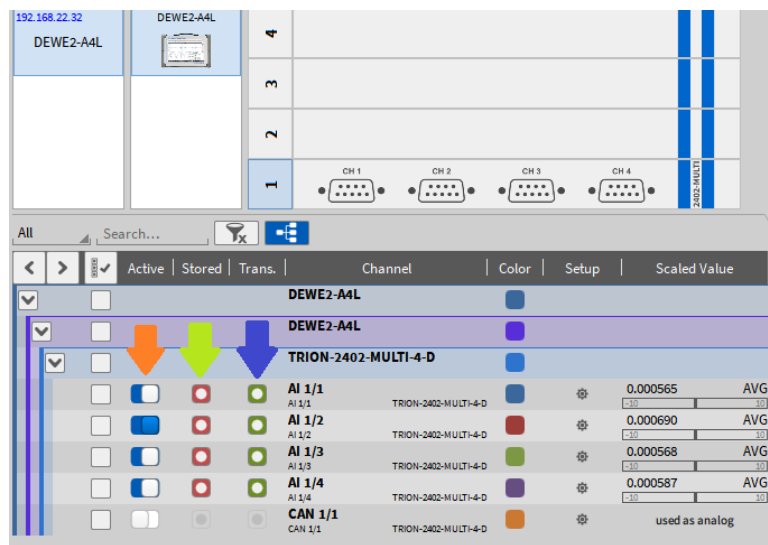

Fig. 15.17: Slave unit channels visible in the Master units' Channel List
Hardware channels from any Slave Unit can be configured from any Master Unit. This includes all simple and advanced channel settings except the *Stored* column (green arrow in Fig. 15.17) in the data channels overview. For Multi-Master systems this means, property changes of hardware channels on one Master Unit will automatically be implemented on every other Master Unit. To prevent communication conflicts, we strongly recommend configuring these settings on only one Master Unit at a time.
- *Active*: the slider marked with an orange arrow in Fig. 15.17 will activate or deactivate the data acquisition from a channel
- *Stored*: the red button marked with a green arrow in Fig. 15.17 will enable the storing of the data
- *Trans.*: the green button marked with a blue arrow in Fig. 15.17 will enable the data transfer from the Slave unit to the Master unit.